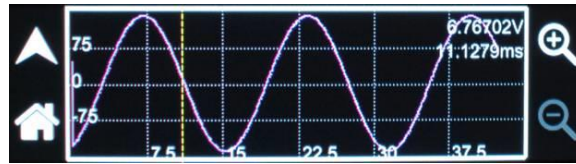

Figure 6-4. Waveform Display on TRACE Screen
2. The output voltage will be displayed, with the horizontal axis showing time in milliseconds, and the vertical axis showing voltage in volts with automatic scaling to display the full amplitude of the waveform; refer to Figure 6-4.
5. The yellow cursor could be moved along the horizontal axis using the encoder or touch-screen. As it is moved, the instantaneous value of the voltage, along with the time, would be displayed in the right-side, upper corner; refer to Figure 6-4.